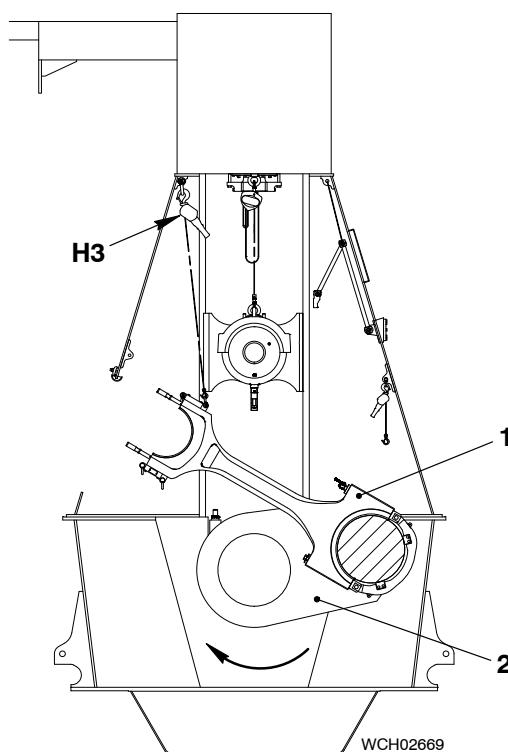

Fig. 16
- 22) Operate the turning gear and the manual ratchet (H3, Fig. 16) to move the connecting rod (1) and crankshaft (2) clockwise into the position shown.